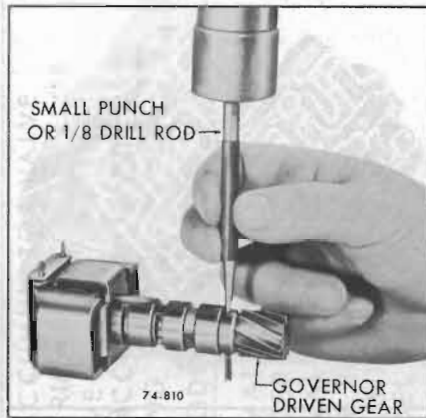

Figure 74-601
1. Drive out governor gear retaining split pin using small punch or 1/8" drill rod. See Figure 74-601.